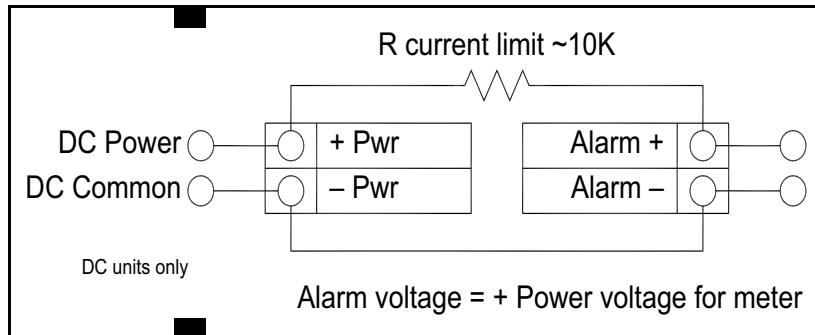

Figure 46: Non-Isolated Alarm Output Using Internal Power Supply
- For DC powered meters only, use the flow meter power supply (see *Figure 46 on page 45*). Use this option if the voltage at the flow meter power supply is an acceptable driver voltage for the connected load, taking into account that the current used by the alarm load comes from the meter's power supply.